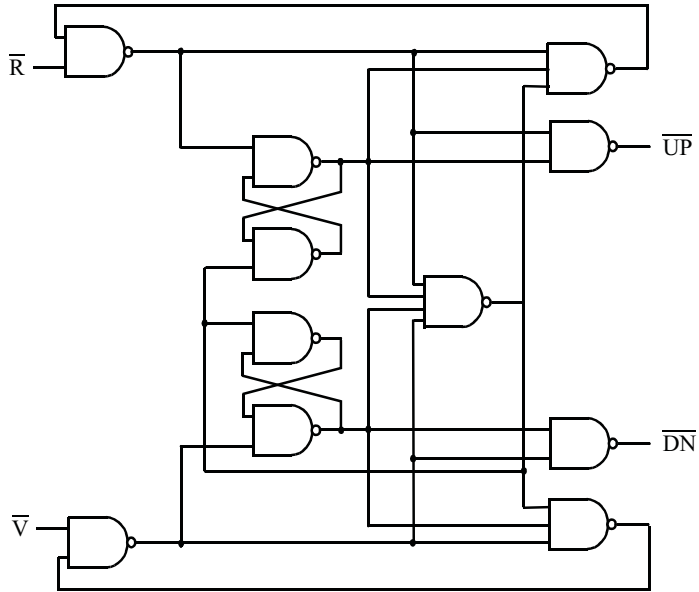

Figure 0.13 Phase-frequency comparator
12. Explain how the phase-frequency comparator shown in Figure 0.13 works.